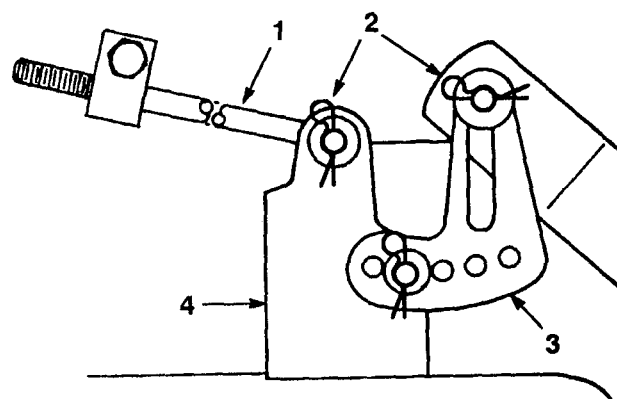

Figure 44
7. Slide the end of the long rod through the hole in the mower mount (Fig. 44). Install the washer and hair pin cotter to secure the rod in place. Repeat this step on the opposite side of the mower.
8. Mount the slotted mower leveling bracket onto the pin on the height-of-cut arm (Fig. 44). Install the washer and hair pin cotter to secure the mower. Repeat this step on the opposite side of the mower.